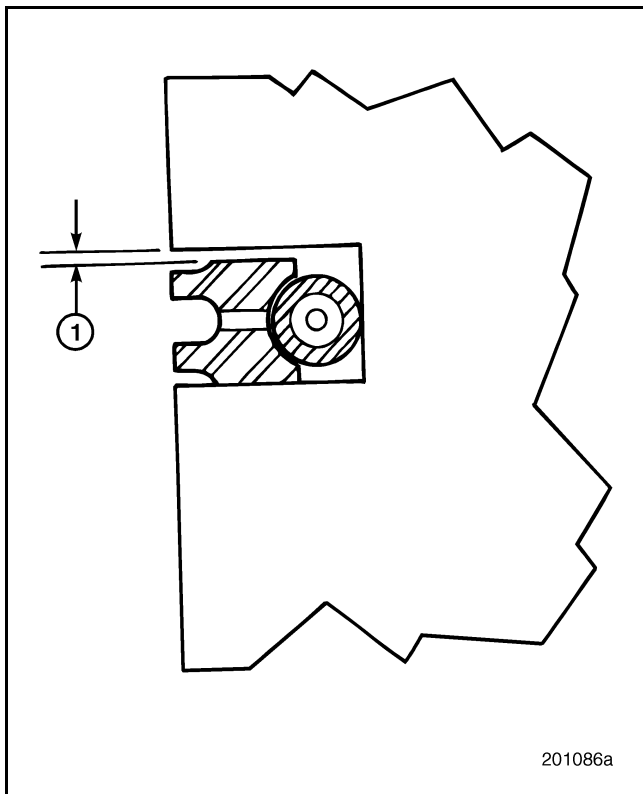

Figure 237 — Side Clearance Measurement
- a. Using a thickness gauge, check for excessive wear of the oil control ring groove side clearance (Figure 237). Position a **new** oil control ring in the groove and insert a thickness gauge between the ring and upper land of the groove.